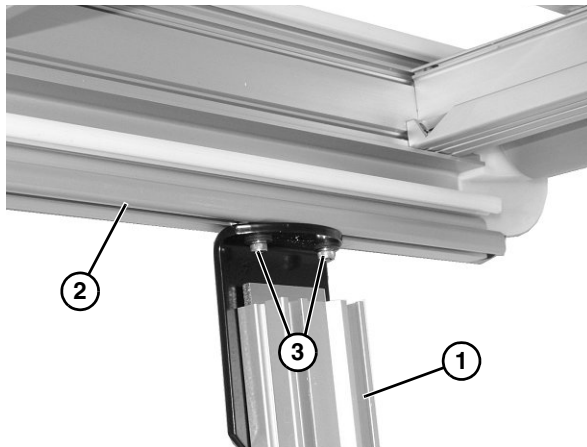

Figure 19
2. Attach stands (Figure 19, item 1) to the bottom of the conveyor frame (Figure 19, item 2). Tighten socket head screws (Figure 19, item 3), on each side, to secure in place.